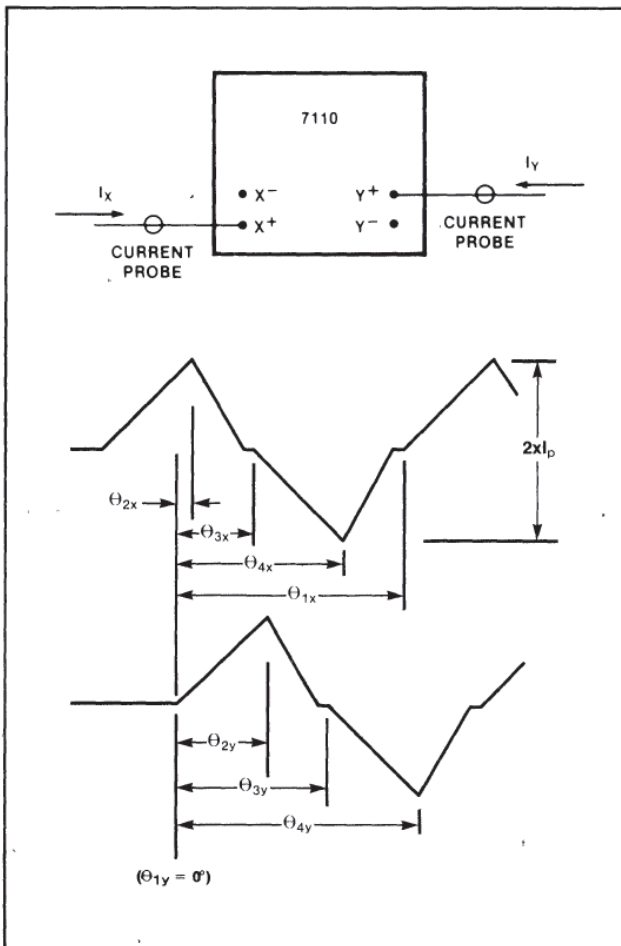

Figure 6. X-Y Coil Waveforms
2. See Fig 6 for test setup and X-Y coil waveforms.